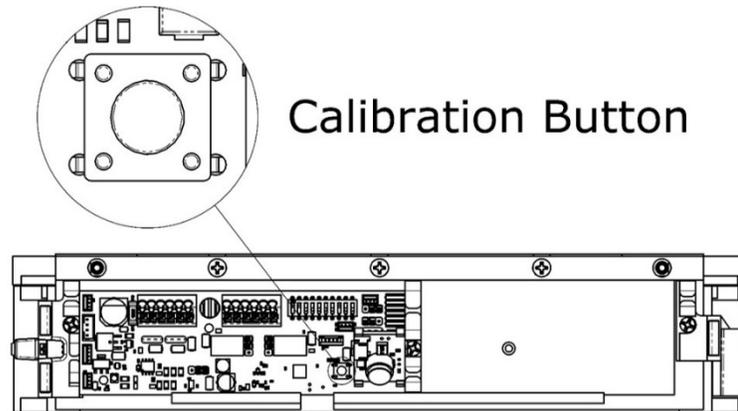

Figure 38. Location of Calibration Button
- d. PRESS and HOLD the calibration button (see Figure 38, "Location of Calibration Button").